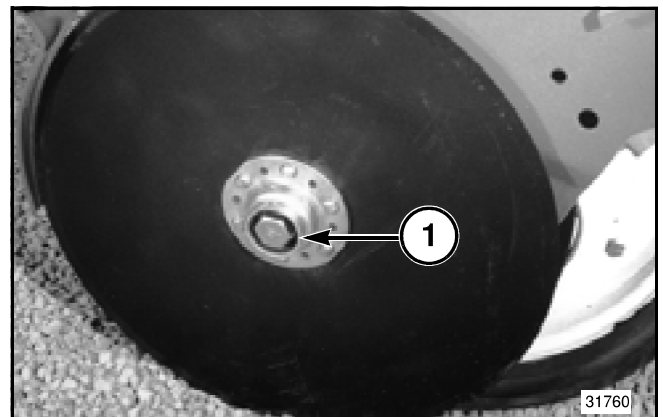

FIG. 46
FIG. 46: To check opener bearing condition, remove gauge wheels and scrapers. Rotate opener discs to check for bearing roughness and wear. If replacement is required, remove each disc by removing hubcap and cap screw (1).